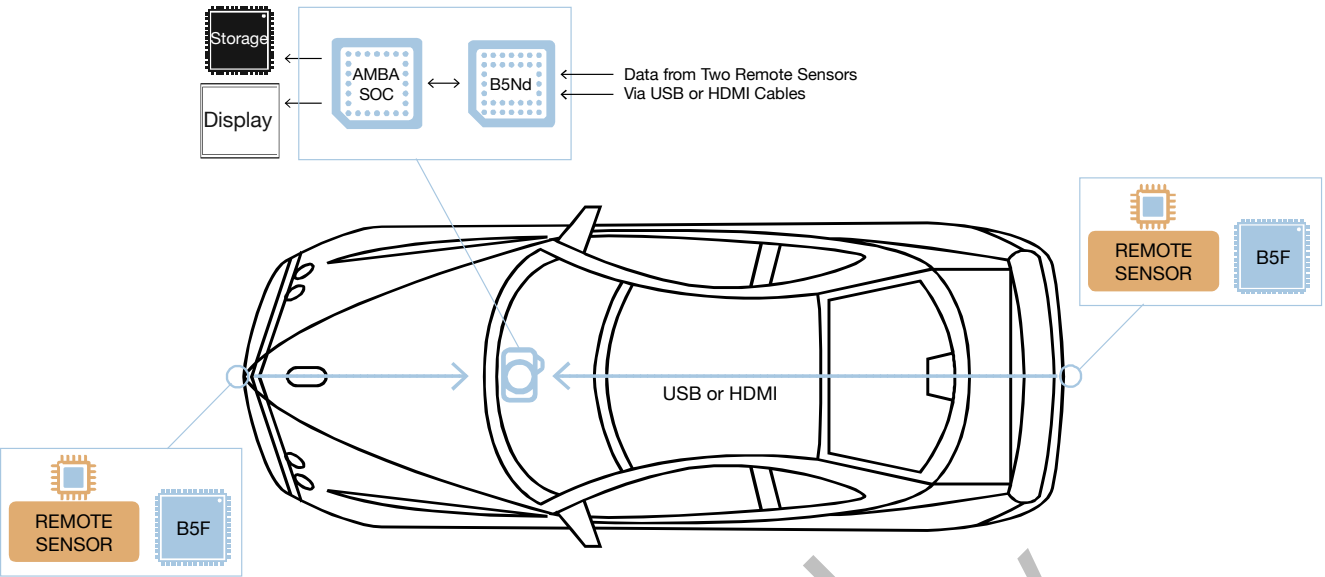

Figure 1-3. A12A25 Automotive Camera Application: Dual Remote Sensor Configuration (B5-Equipped).
1. Two remote sensor inputs are sent to the A12A25 SoC via the Ambarella B5F (serializer) and B5Nd (de-serializer) companion chips (Figure 1-3)